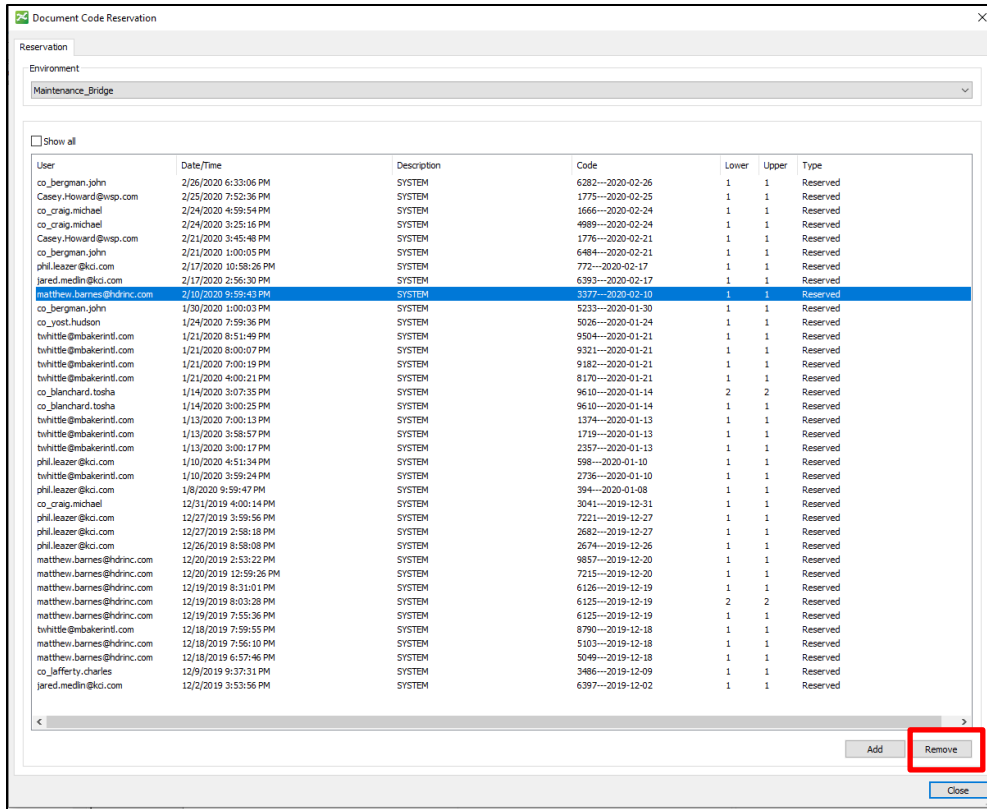

Figure 5.10. Document Code Reservation window. Users should find their name and associated code, select it, and click the 'Remove' button.
5. A new window will pop up as shown in Figure 5.10.